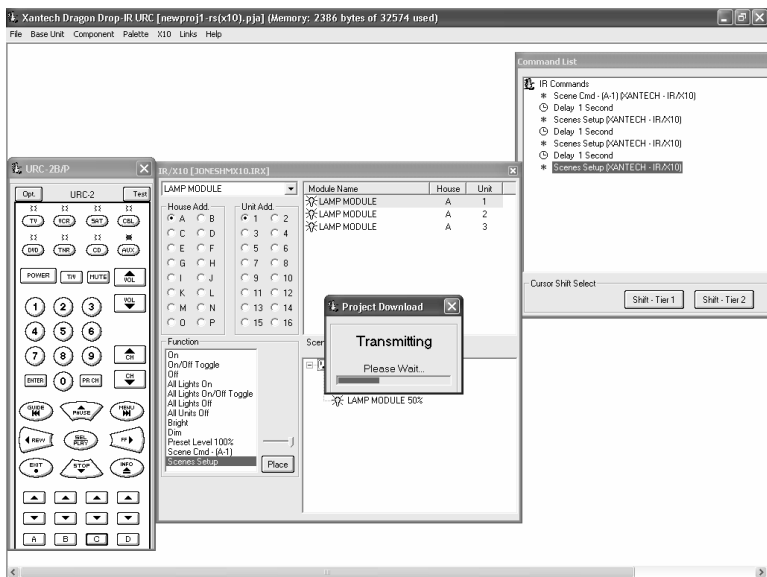

Figure 7 – Transferring Data to a Real Controller
3. A transfer status bar is shown as the transmission of data progresses. See **Figure 7**. Also, the Status LED on the URC-2P/B blinks orange and green until the transfer completes.